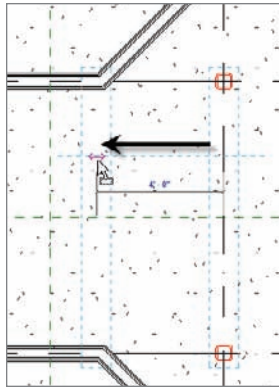

FIGURE 8.31 Moving the columns to the left 4'-0"
2. Select the two columns at the left of the corridor, as shown in Figure 8.31.
3. Move the columns 4'-0" to the left (see Figure 8.31).